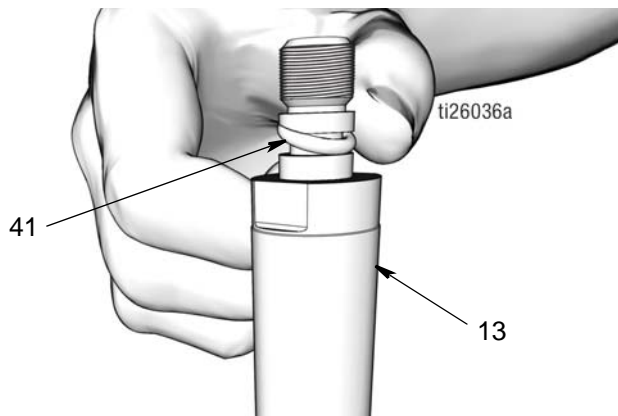

FIG. 46
- Use a clean cloth to wipe down the piston rod (13) and piston (6) and remove any dirt or contaminants. Inspect surfaces for any scratches or damage. Replace damaged parts.
- Apply a thin layer of grease to o-ring (41). Install o-ring over the grooves of the piston rod (13) (FIG. 46).